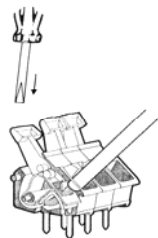

Figure 2-12: Inserting Load Cell Wires
7. Connect the load cell leads to J2 on the main board (see Figure 2-12).
8. Use a small screwdriver to apply force to the lever connector, as shown in Figure 2-12.